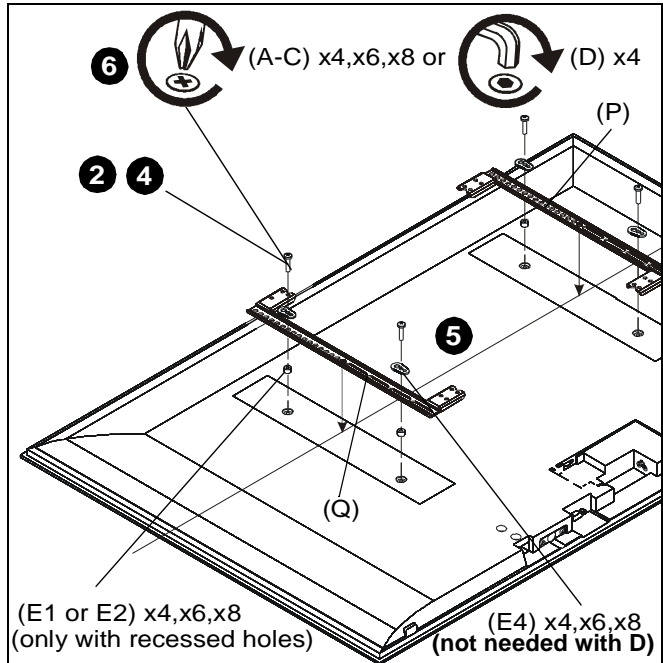
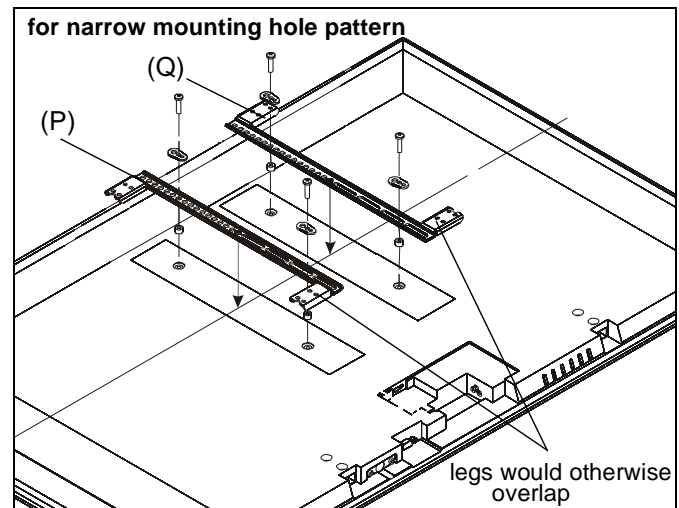

Figure 20
Figure 21
2. Select screw *diameter* by examining hardware (A-D) (4mm, 5mm, 6mm or 8mm) and comparing with mounting holes on display. (See Figure 20)
3. Select spacers: (See Figure 20)
4. Select screw *length*: (See Figure 20)
- NOTE:** Universal washers (E4) are not needed if using M8 button head cap screws (D).
5. Place uprights (P and Q) on display, ensuring: (See Figure 21)
NOTE: If installing to a display with a narrow hole mounting pattern, reverse uprights (P and Q) so that the upright legs do not overlap onto each other. (See Figure 21)
6. Using Phillips screwdriver, carefully install selected screws through universal washers (E4, if required), uprights (P and Q), and spacers (E1 or E2, if required), into display. (See Figure 20)